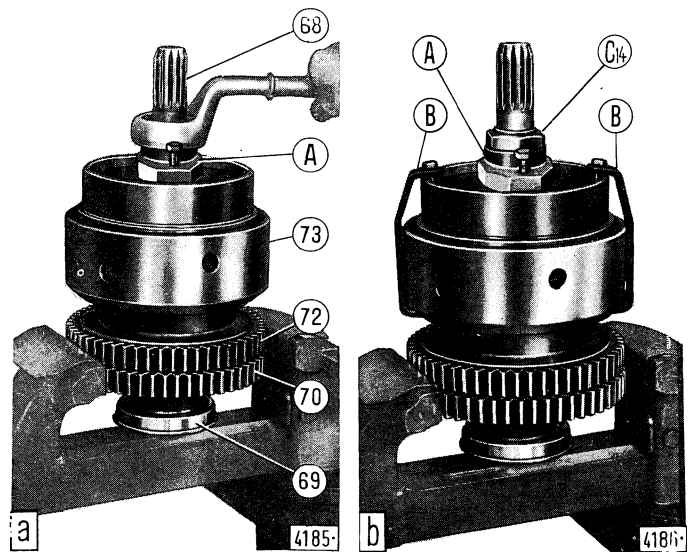

Fig. 110 - Rebuilding Reverse-speed Clutch
— Rebuild shaft (68, Fig. 111) with bearing (69), gear (70) thrust ring (43) and complete drum (73, Fig. 110).
— Mate reaction plate (16, Fig. 110) and piston (17) with shaft (68, Fig. 110), mount spring compressor Part No. **291518** (A), fully tighten the pack (see a) acting on nut (C₁₄), fit hold-down brackets Part No. **291520/1** (B) tightening the screws against drum (b) and, finally, withdraw complete clutch unit (I, Fig. 111) from the shaft.